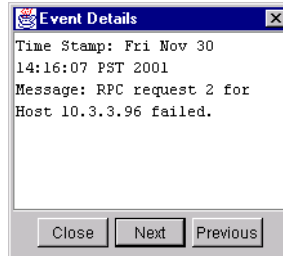

Figure 8-2. Event Details Dialog Box
3. To view an individual event, double-click the event. The **Event Details** dialog box displays (see figure 8-2).